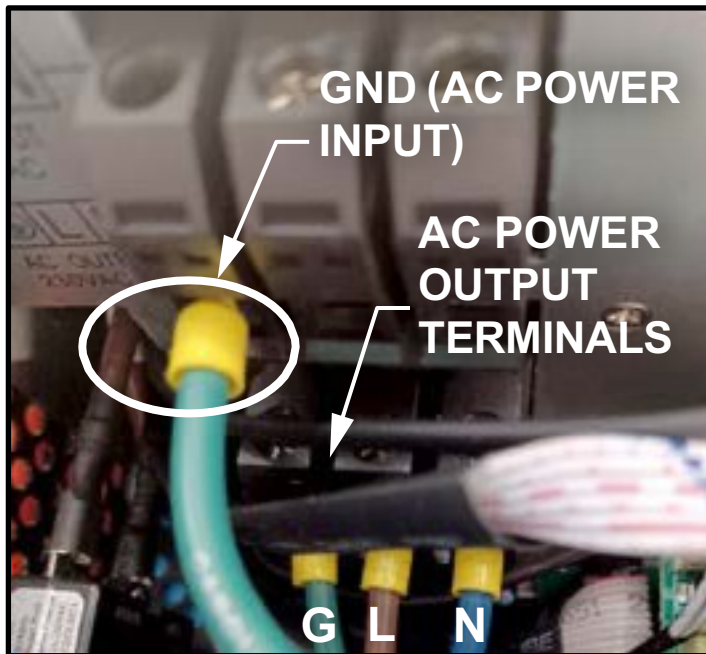

Figure 1-16
9. Strip insulation from (6) AC wire ends approximately 0.4” (10mm). Insert the (3) AC OUTPUT wires first according to polarities indicated on the terminal block and tighten the terminal screws. (See Figure 1-16)
10. CAUTION: Make sure the polarities of the AC wires are correct. If the L and N are reversed - it may cause a short-circuit in the AC source when the inverters are set up to operate in parallel. (See Figure 1-16)